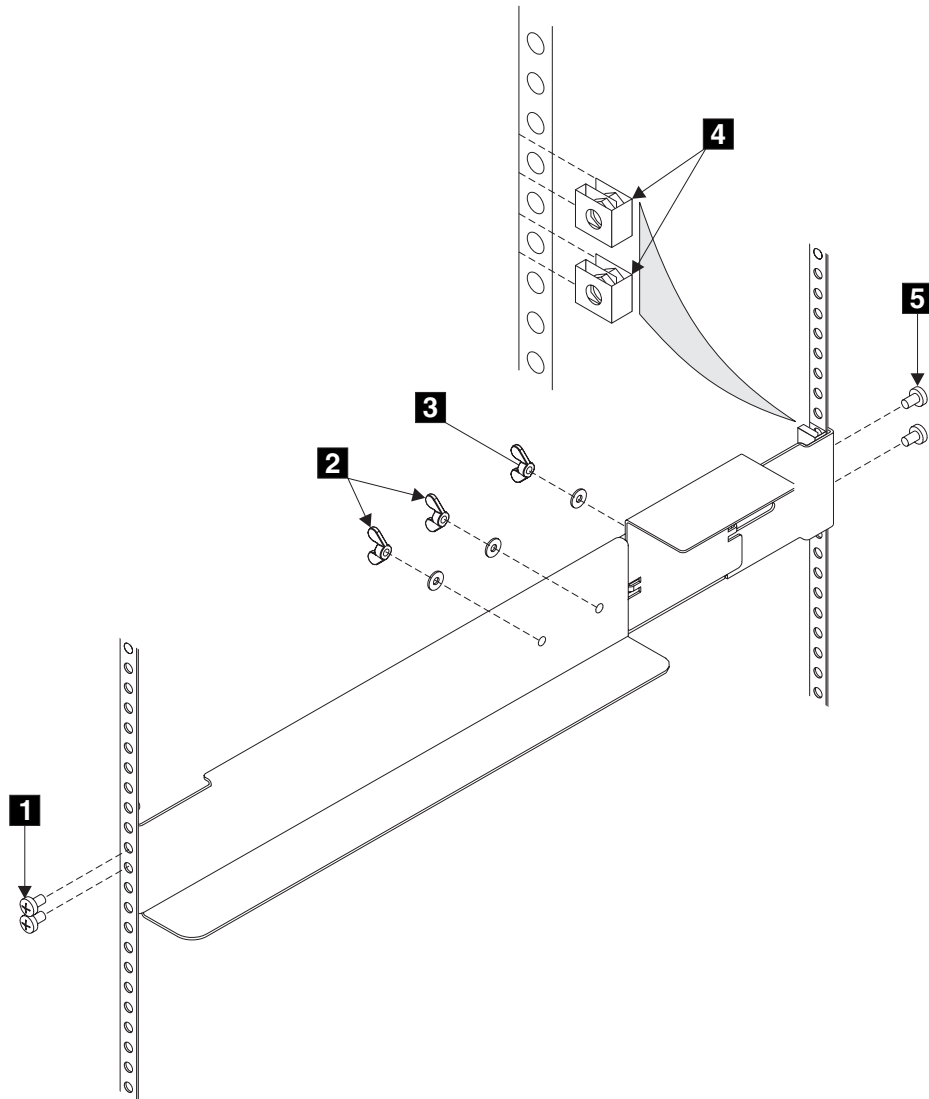

Figure 35. Installing support rails for a 2145 UPS into the rack
1. Attach nut clips **4** to the rack (see Figure 35 on page 58). These nut clips must align with the second and fourth holes of the support rail flange.